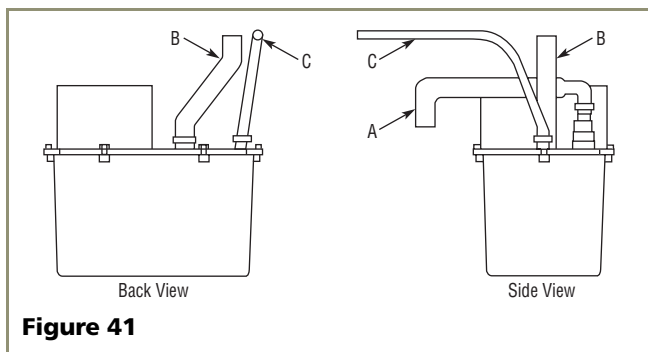

Figure 41
- Check that the clamps and hose connections are tight at the following areas (see **Figure 41**):
- Discharge tube (A)
- Drain tube (B)
- Vent tube (C)